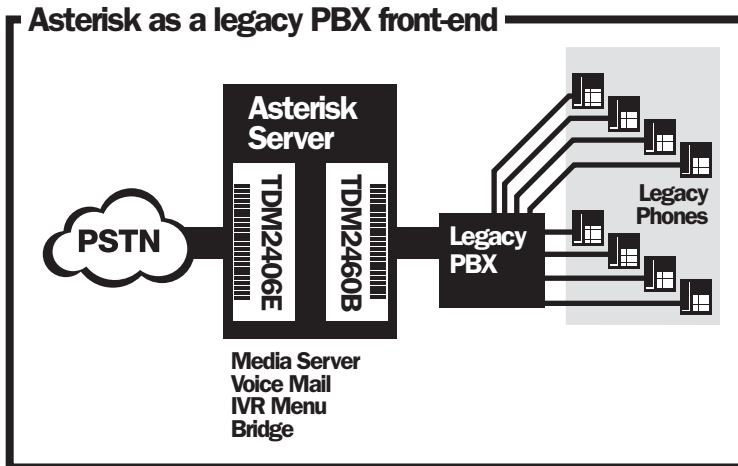

Figure 2: Sample Application - Legacy PBX
- Figure 2: Sample Application - Legacy PBX 16